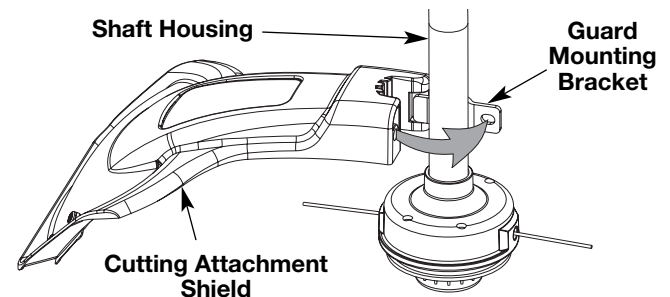

Fig. 4
1. Place the cutting attachment shield onto the shaft housing. Be sure the guard mounting bracket slides into the slot on the edge of the cutting shield. Rotate the shield into place, counterclockwise. The holes in the guard mounting bracket and cutting attachment shield will line up (Fig. 4).